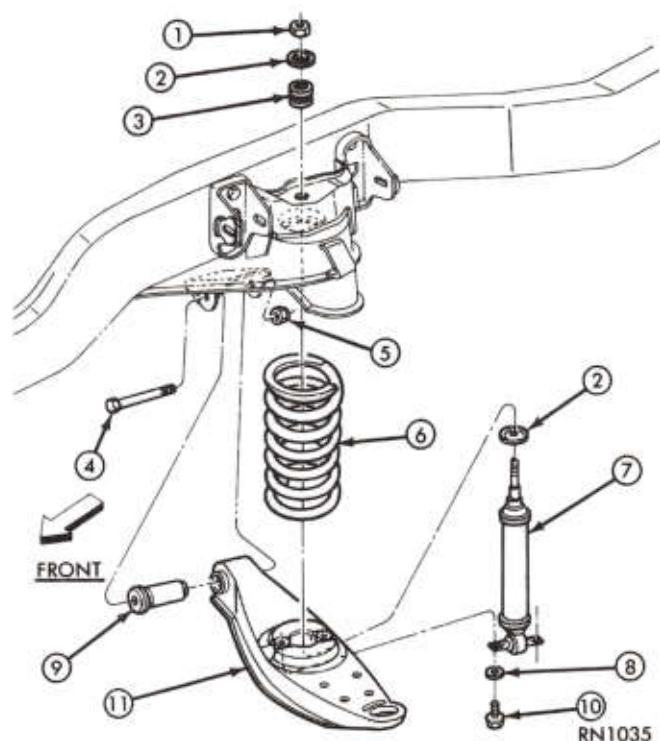

Fig. 7—Lower Control Arm and Related Parts
(2) Remove hex-head mounting bolt from the crossmember.
(3) Remove lower control arm from vehicle (Fig. 7).
LEGEND FIG. 7